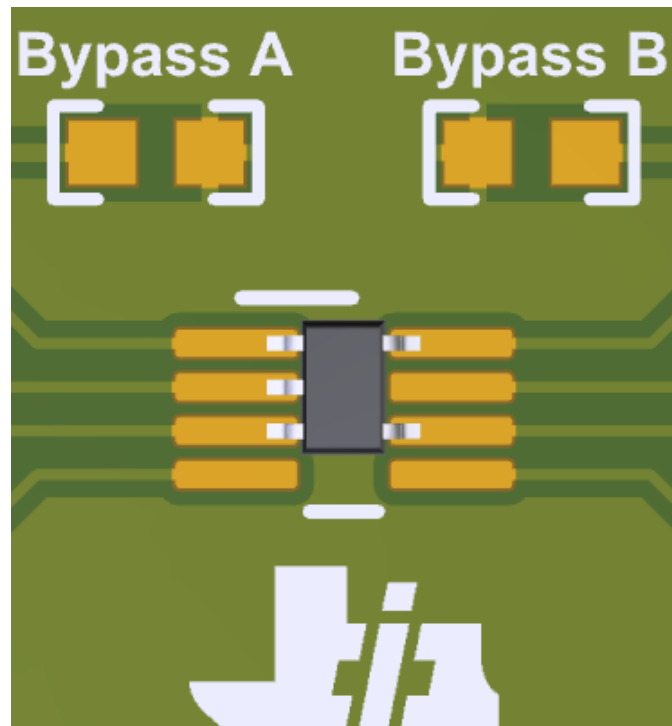

Figure 2. 5-pin DCK Placement
2. Solder down the device. Some sections support multiple packages so carefully solder down the device to make sure it is aligned properly. Figure 2 illustrates an example of proper placement..